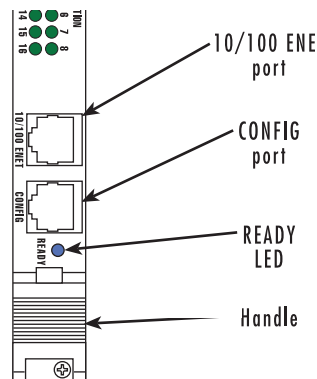

Figure 16. Model 2616RC interface ports
3. Connect the RJ45-RJ45 cable between the adapter which you installed in step 1 and the *RS-232 Config* port on the front of the Model 2616RC (figure 16).